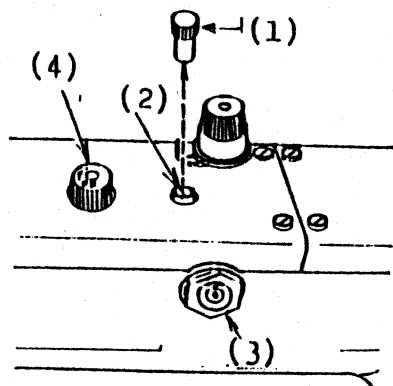

Fig.4
1. Remove the oil stopper(1), pour the oil from the oil hole(2) until the oil reached to the top of the oil gauge(3).
2. When operating the machine, push down the adjusting serrated nut(4) and turn it counter-clockwise as shown Fig.4.
3. When not operating the machine, the oil adjusting serrated nut(4) should exactly be returned back.